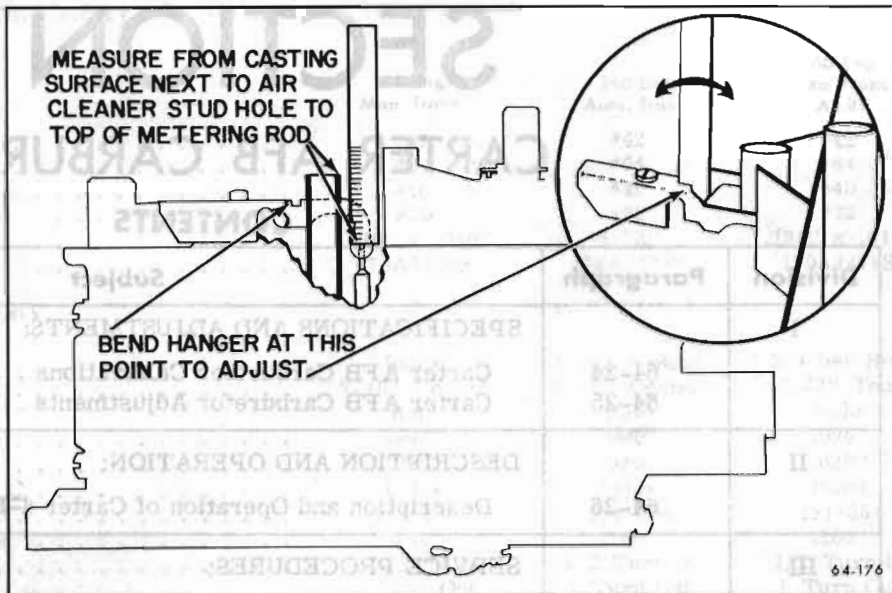

Figure 64-46—Secondary Metering Rod Adjustment
1. Check secondary metering rod adjustment by measuring from top of each metering rod to top of air horn casting next to air cleaner stud hole. Measurement should be 53/64 in. See Figure 64-46.
2. Adjust, if necessary, by bending metering rod hanger at point shown in Figure 64-46. Make sure both rods are correctly adjusted.